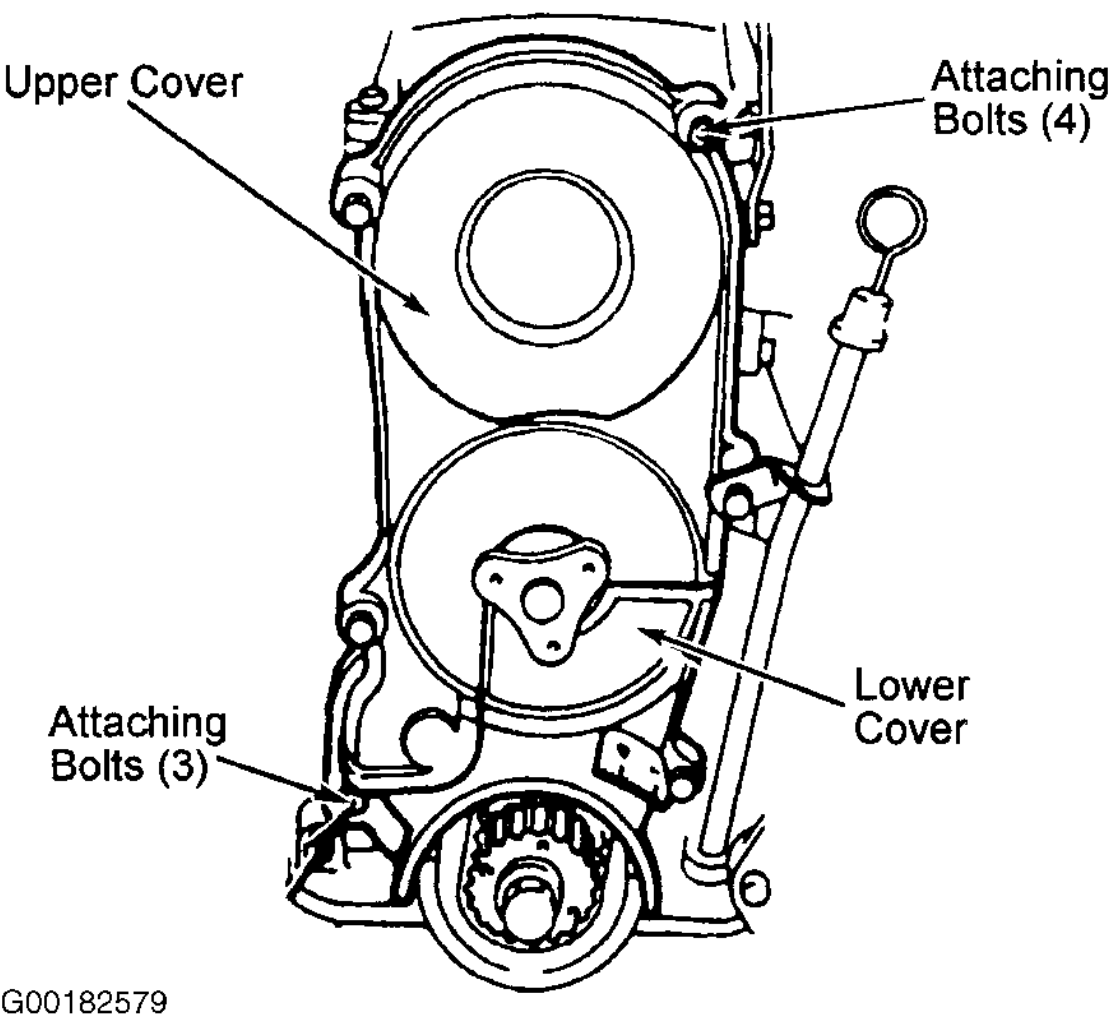

Fig. 2: Locating Timing Belt Upper & Lower Covers
- 1. Disconnect negative battery cable. Remove accessory belts. Remove water pump pulley. Remove right inner fender panel to gain access to crankshaft pulley. See Fig. 1 . Remove outer crankshaft pulley attaching bolts, then outer stiffener and spacer. Remove inner pulley and baffle plate. Remove bolts retaining upper and lower cover halves to engine front. Remove both covers. See Fig. 2 .